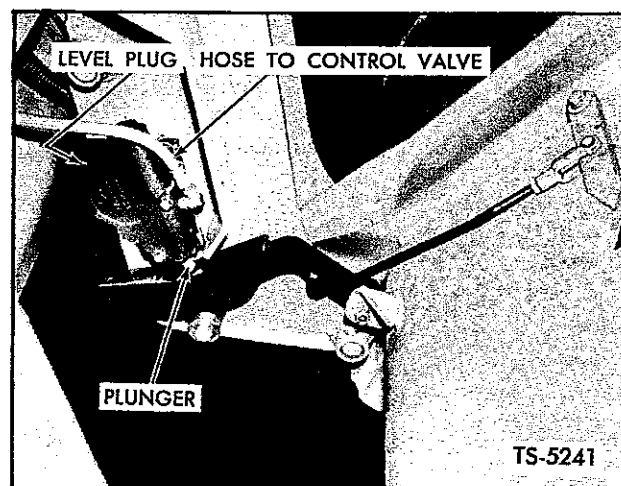

Fig. 17. Bleed Cylinder and Lines
2. Remove leveler plug on master cylinder. See Figure 17.
2. Start engine, remove hose from master cylinder and run engine at maximum governed rpm (without load). See Figure 17.